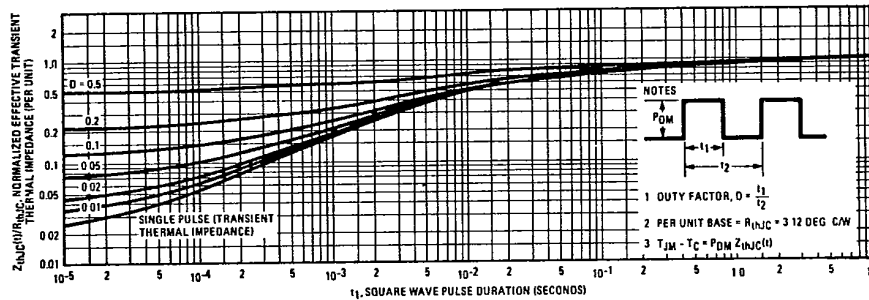

Fig. 5 - Maximum Effective Transient Thermal Impedance, Junction-to-Case Vs. Pulse Duration
① T_J = 25°C to 150°C. ② Pulse Test: Pulse width < 300μs, Duty Cycle < 2%. ③ Repetitive Rating: Pulse width limited by max. junction temperature. See Transient Thermal Impedance Curve (Fig. 5)